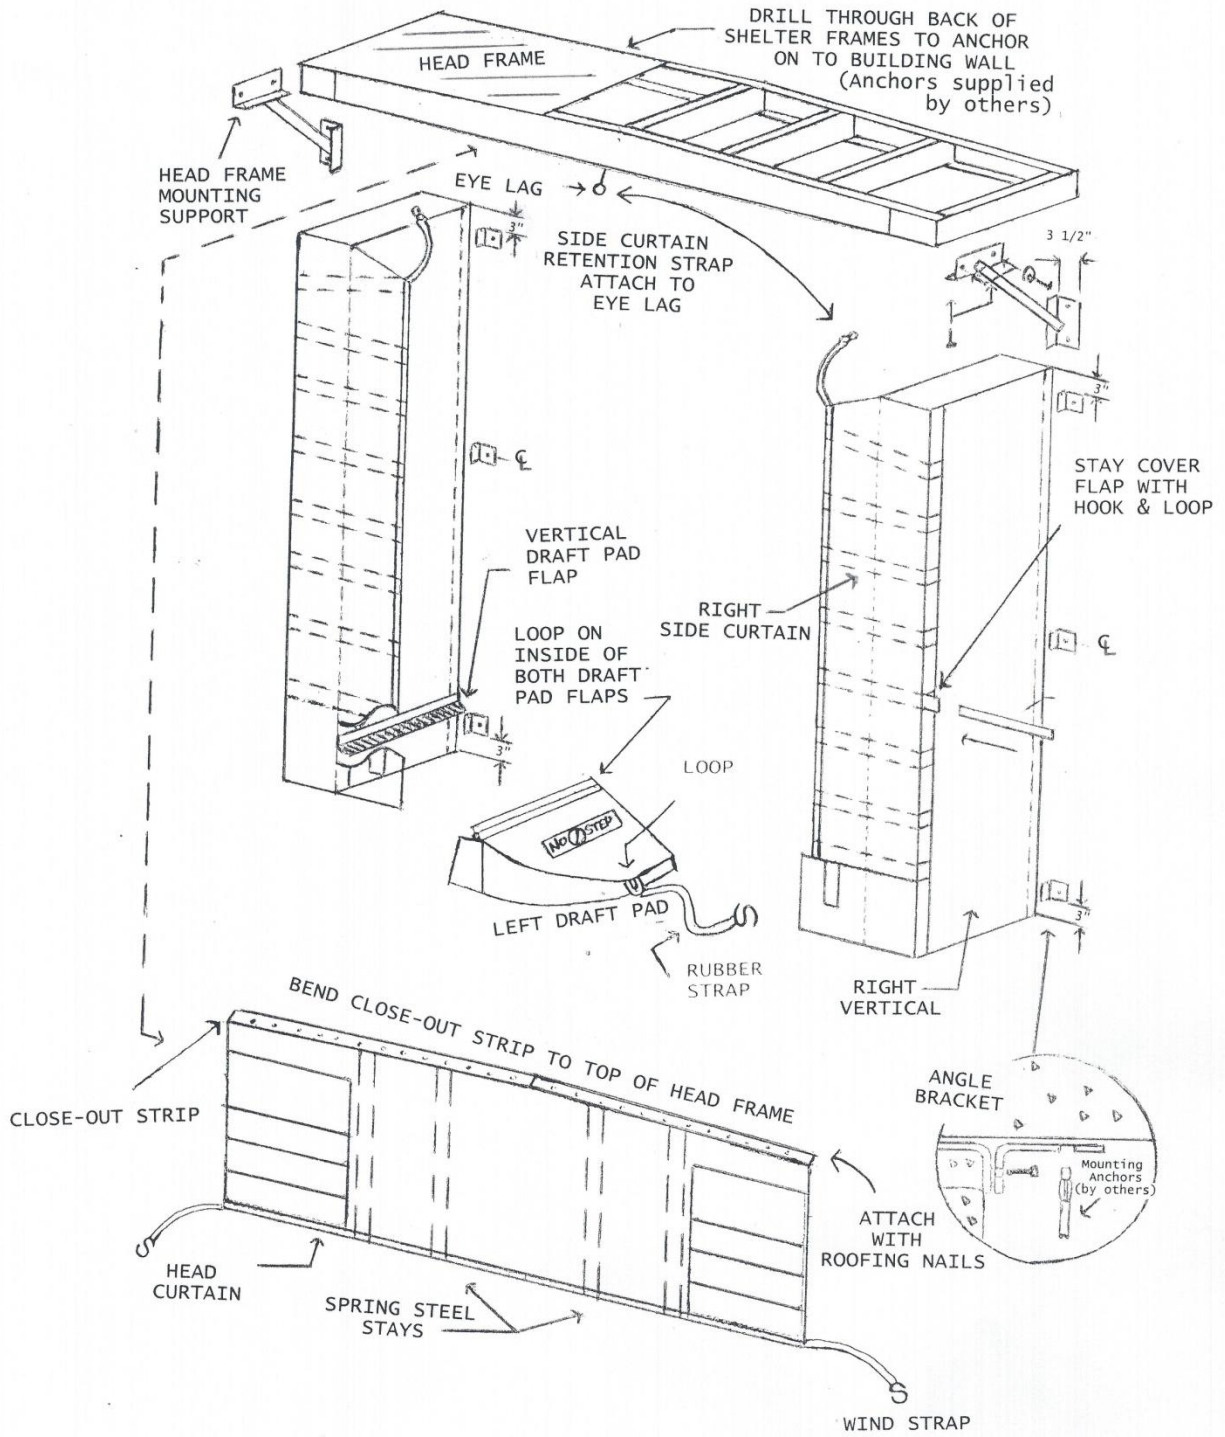

**FIGURE 7 – ATTACHING RUBBER STRAPS**
**(14) HOOK RUBBER STRAPS AT TOP OF VERTICAL CURTAINS TO EYE BOLT ON BOTTOM OF HEADER FRAME (SEE FIGURE 7).**
**(15) ATTACH RUBBER STRAPS AT ENDS OF HEAD CURTAIN TO SIDE OF BACKER BOARD OF VERTICAL PADS.**
**(16) FOLD CLOSEOUT STRIP AT TOP OF HEAD CURTAIN OVER TOP OF HEAD FRAME AND ATTACH WITH ROOFING NAILS THROUGH BRASS GROMMETS IN CURTAIN.**